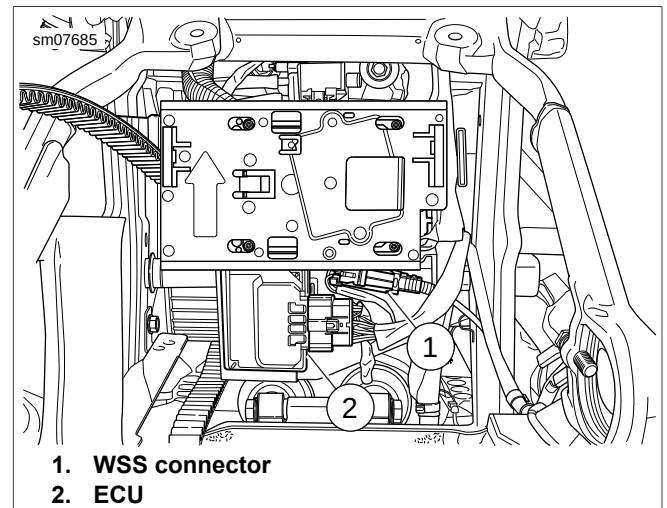

Figure C-3. ECU
4. See Figure C-3. Remove WSS connector (1).
6. Remove ECU (2) from panel.
1. See Figure C-3. Install ECU (2).
3. Install WSS connector (1).